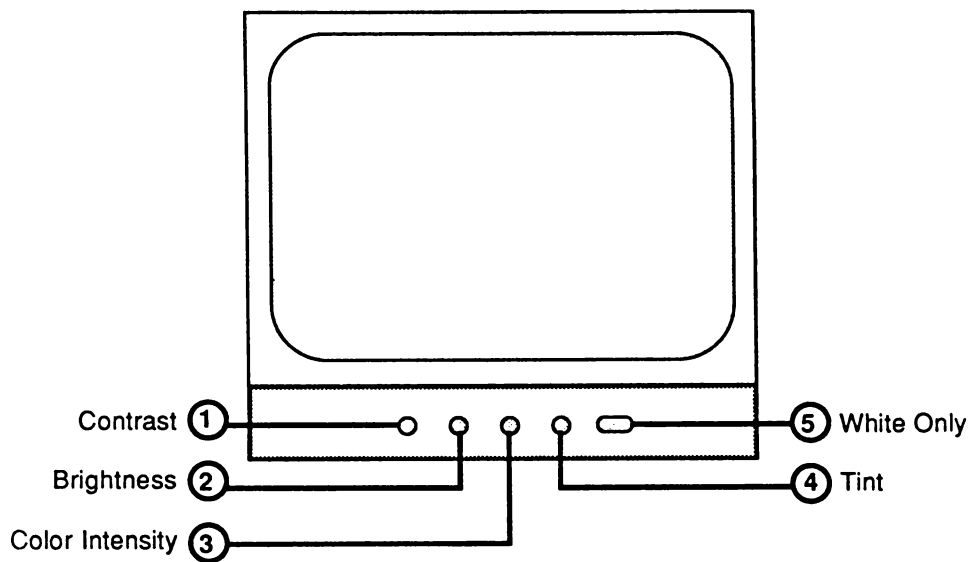

FIGURE 10
22. Return the **WHITE ONLY** switch (Figure 10, #5) to its normal position (out).
23. Adjust the front panel **COLOR INTENSITY** control (Figure 10, #3) until the raster displays the desirable amount of color.
24. Adjust the front panel **TINT** control (Figure 10, #4) so that the color block marked "Yellow" is at its yellowest hue.
25. Set the front panel **BRIGHTNESS** control (Figure 10, #2) so that the background behind the color bar pattern appears black.
26. Adjust the front panel **CONTRAST** control (Figure 10, #1) for optimum viewing comfort.